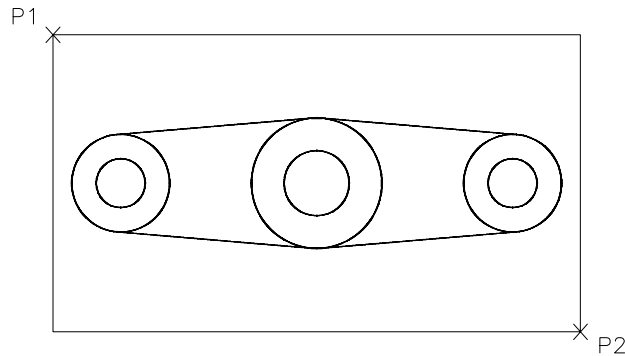

Figure 28-26 Generating the top view
Specify first corner of viewport: *Specify the point of the viewport, see Figure 28-26.*
Specify opposite corner of viewport: *Specify the second point, see Figure 28-26.*
4. Double-click in the viewport to switch to the temporary model space. Zoom the drawing to the extents using the **Extents** option of the **ZOOM** command. Now, switch back to the paper space using the **PSPACE** command. The layout after generating the top view should look similar to the one shown in Figure 28-26.